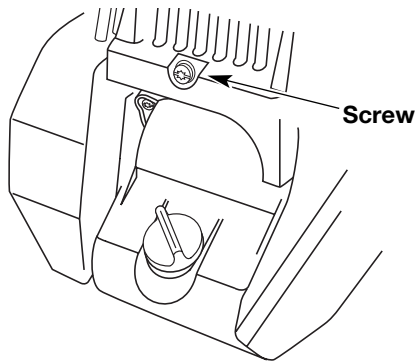

Fig. 35
- Remove the screw behind the engine cover (Fig. 35).